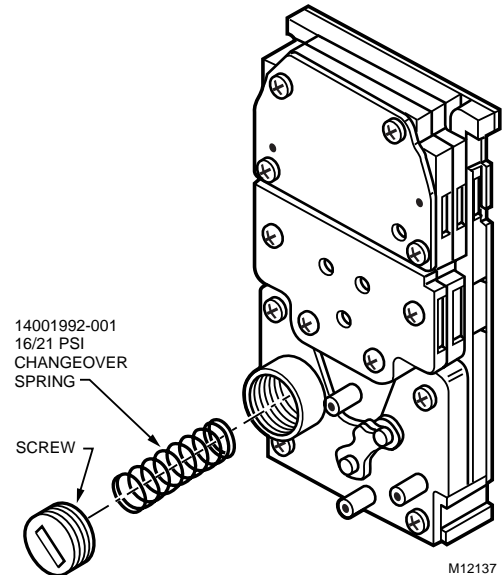

Fig. 21. Switchover Adjustment Spring Replacement.
1. Using a screwdriver, carefully remove the screw and switchover adjustment spring (Fig. 21). See PARTS LIST in PARTS and ACCESSORIES section for available springs.